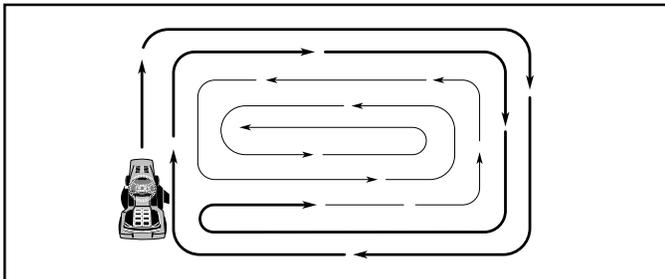

FIG. 14
- When mowing large areas, start by turning to the right so that clippings will discharge away from shrubs, fences, driveways, etc. After one or two rounds, mow in the opposite direction making left hand turns until finished (See Fig. 14 ).